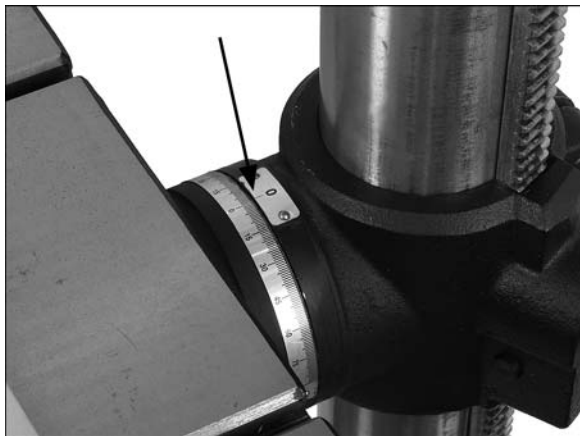

Figure 17
2. Pivot table to desired angle by aligning scale on table to line on indicator plate (Figure 17).
3. Re-tighten bolt (D) and handle (E).
- When returning table to horizontal position, loosen handle (E) and bolt (D), tilt table back to zero degrees on scale, and tighten handle (E), then tighten bolt (D).